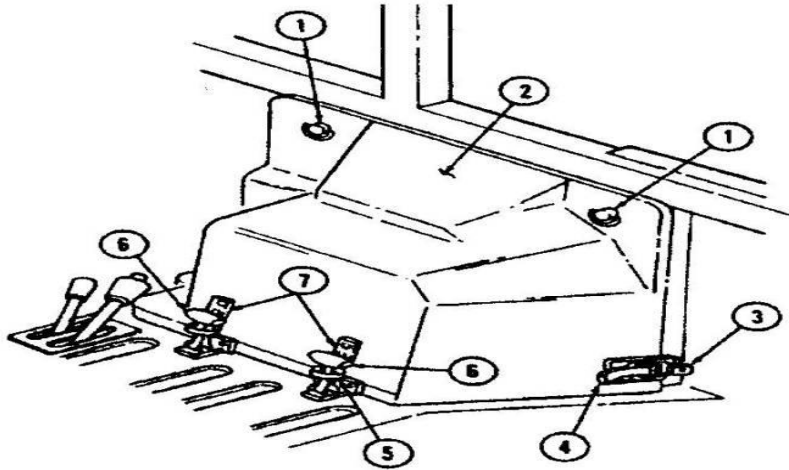

Figure 69
hh. Installation of Engine Access Cover. Refer to TM 9-2320-387-24-2, Chapter 10, Task Para 10-22, Page 10-25 and **Figure 69** contained in these instructions.
(1) Install access cover (2) on vehicle with two ring studs (1), **Figure 69**.
(2) Install two hold down latches (6) on hold down strikes (5), **Figure 69**.